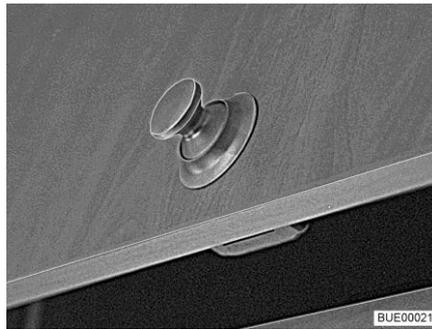
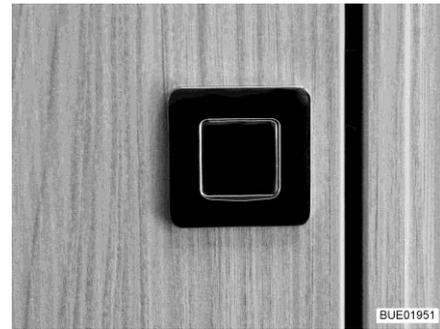

Fig. 41 Furniture flap with round push button
Fig. 42 Furniture flap with rectangular push button
- Press inner part of the lock. The push button (Fig. 41 or Fig. 42) jumps out.